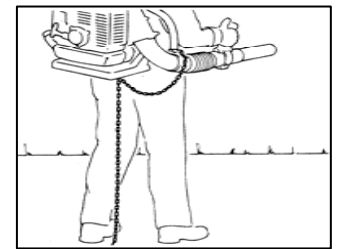

Fig. 28. Securing chain.
- ☐ p. Secure the chain (Fig.27-22) to the backpack support frame with the fastening screw located under the base near the TORX screwdriver mount. NOTE: The chain MUST touch the ground (Fig. 28).